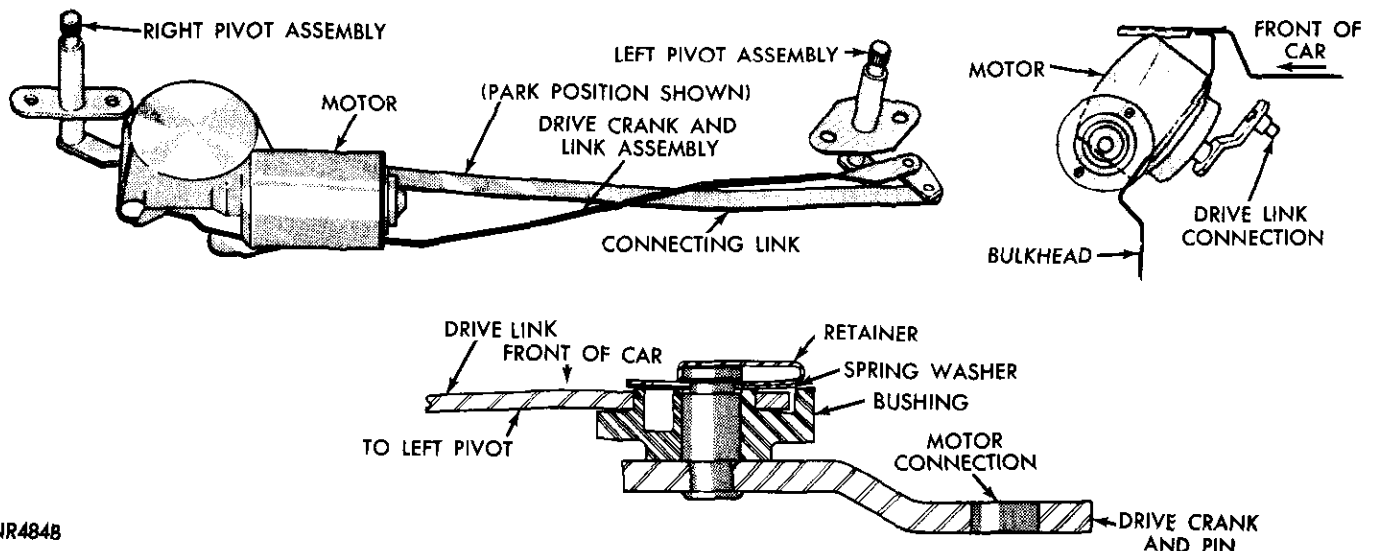

Fig. 4—Wiper System
In heater equipped models, remove motor drive crank arm retaining nut and pry crank arm off of motor shaft. Remove drive link from left pivot crank arm pin and withdraw assembly from under panel. Remove motor drive crank arm from drive link after removal of assembly from vehicle (Fig. 4).
(1) Install bushing on motor crank arm pin, position drive link on bushing so large side of **pivot bushing** faces away from drive crank arm. Large side of pivot bushing will be on same side of link as crank arm retainer.
(2) Install spring washer, convex side towards link and install retainer (Fig. 4).